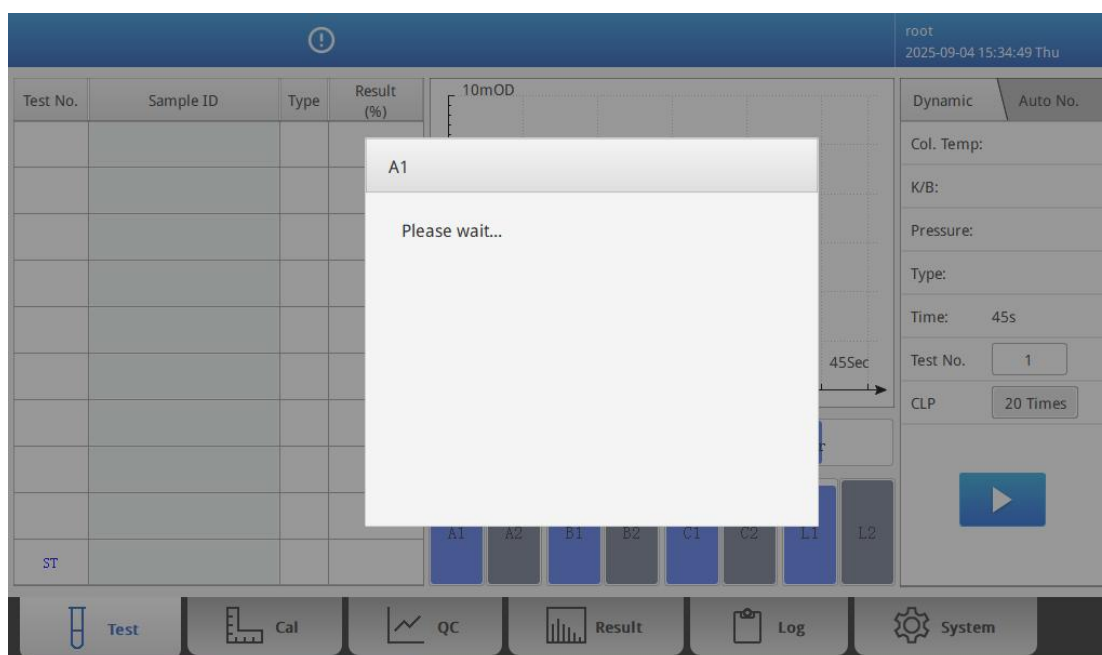

Fig. 5-11 After Clicking "Yes" Button
2) Click "A1", then click "Yes" button. The **Fig. 5-11** will be displayed.